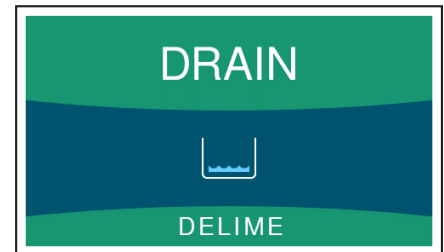

Fig. 50 - Delime Drain Screen
1. While the power button is off, press the Varicycle button 3 times within 30 seconds to enter into the delime cycle. The screen displays DRAIN as the automatic drain valve opens (see Fig. 50).